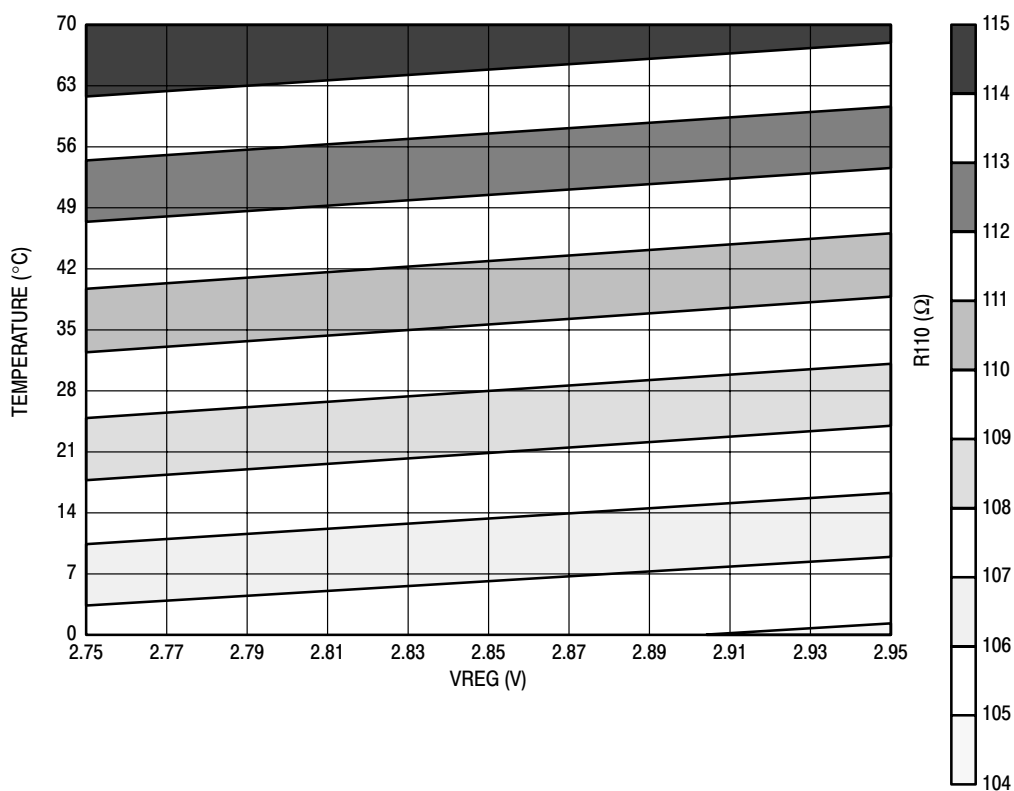

Figure 5. Termination Resistance R_{110} (Ω) versus Regulated Supply Voltage V_{REG} (V) and Temperature ($^{\circ}\text{C}$)
1. See Figure 5, Termination resistance versus regulated supply voltage and temperature. 110Ω Resistor Target Is at 35°C. Temperature coefficient of resistance T_C = 0.135Ω/°C typical.